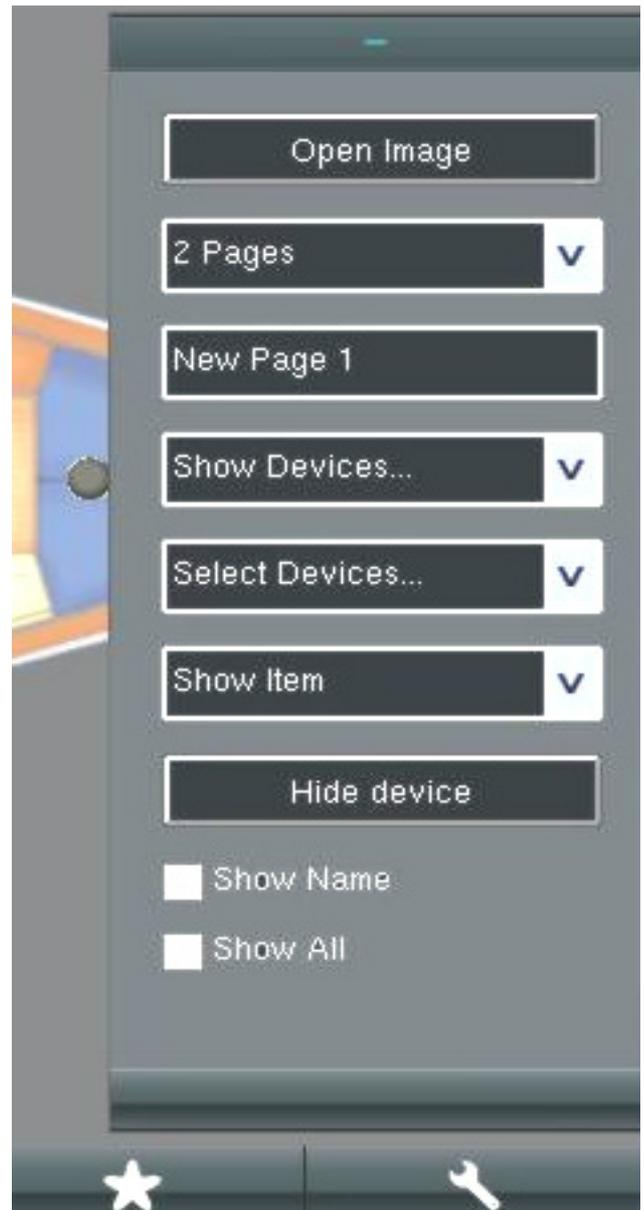

Figure 22: Consumer page pop up screen
- 3 The light miniatures (examples in the circles) must be positioned in the Consumer page. See figure 22. Select the corresponding load under “Show Devices” and position the miniature.
If you select the “+” in the Consumer page (figure 21, dotted circle), a pop up menu like figure 22 is shown (configuration level only).